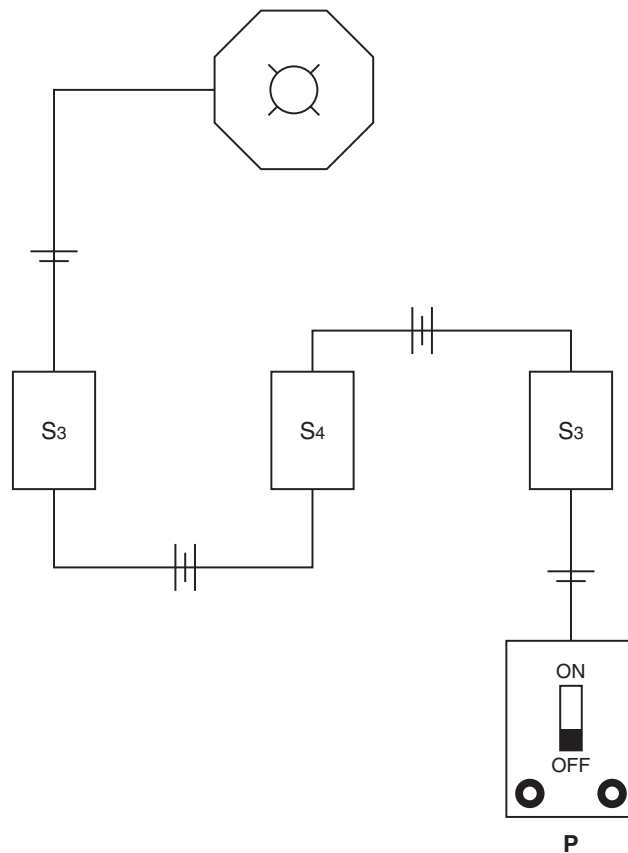

Figure 9-18 First circuit for connection.
3. Connect two- and three-conductor cables between the power supply and the boxes as shown in Figure 9-18. (Note: Blueprints generally indicate electrical cables as lines with hash marks. The same notation will be used in this laboratory exercise. A line with two hash marks indicates a two-conductor cable. A line with three hash marks indicates a three-conductor cable.)